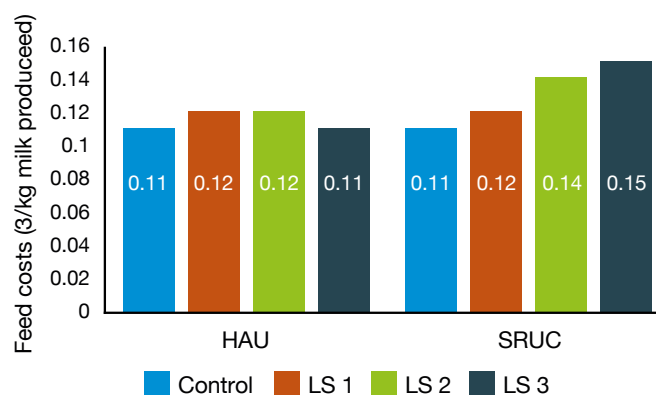

Figure 53. Total feed costs (£/kg milk produced) for HAU and SRUC
- Feed costs per kg milk produced increased as LS inclusion increased at SRUC (Figure 53)